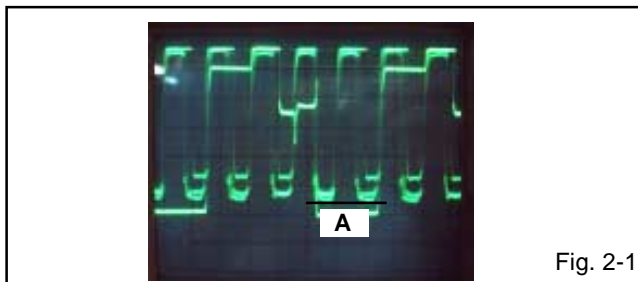

Fig. 2-1
**(Refer to Fig. 2-1)**
8. Press the TV/VIDEO button on the remote control to set to the AV mode. Then perform the above adjustments 2~6. **(Refer to Fig. 2-1)**
10. Press the TV/VIDEO button on the remote control to set to the YUV mode. Then perform the above adjustments 2~6. **(Refer to Fig. 2-1)**